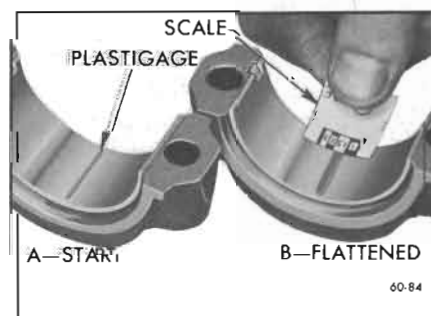

Figure 60-84—Checking Bearing Clearance With Plastigage
2. Place a piece of Plastigage lengthwise along the bottom center of the lower bearing shell (Figure 60-84, View A), then install cap with shell and tighten bolt nuts to 50 lb. ft. torque.
5. Using the scale printed on the Plastigage envelope, measure the flattened Plastigage at its widest point. The number within the graduation which most closely corresponds to the width of Plastigage indicates the bearing clearance in thousandths of an inch. See Figure 60-84, View B.